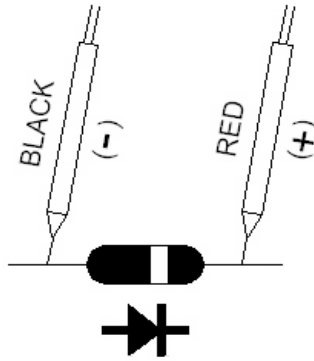

Fig. 3
- b. When connected as shown in Fig. 3, a reverse check on the diode is made. If the diode under test is good, " oL " will be displayed. If the diode under test is defective, ".000 " or other numbers will be displayed. Proper diode testing should include both steps a. and b. above.